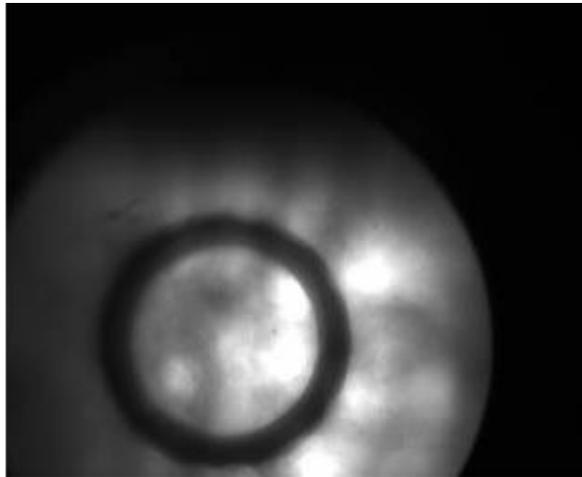

Figure 4-18: Out-of-focus image of phase contrast ring
10. If necessary, adjust the illuminator level and the exposure time to obtain a visible but not saturated image. The image of the phase ring might be off-center. See Figure 4-18. This is acceptable as long as most of the image is visible.